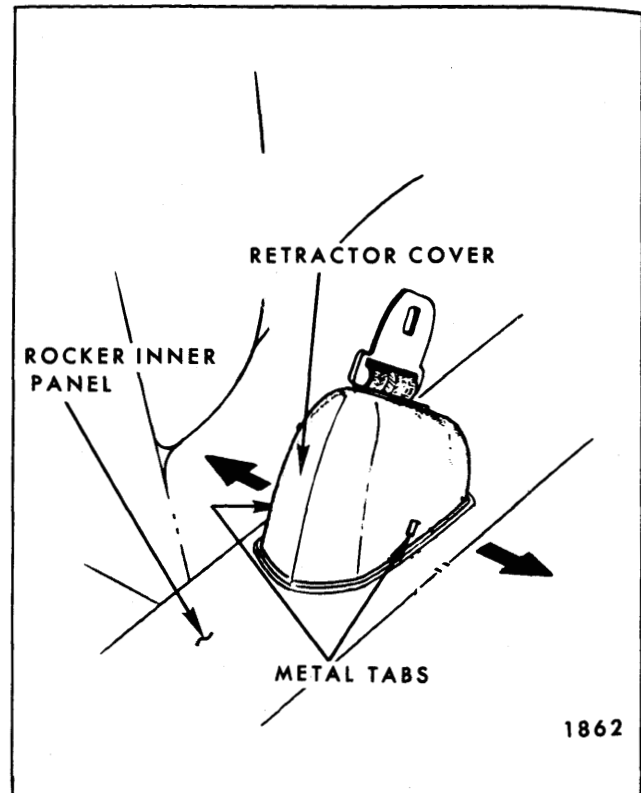

Fig. 10-82—Removal of Seat Belt Retractor Cover
1. Extend belt fully; insert screwdriver through belt opening in cover and apply moderate pressure to inside of cover adjacent to metal tabs and disengage cover from tabs on sides of retractor base. (See Fig. 10-82)